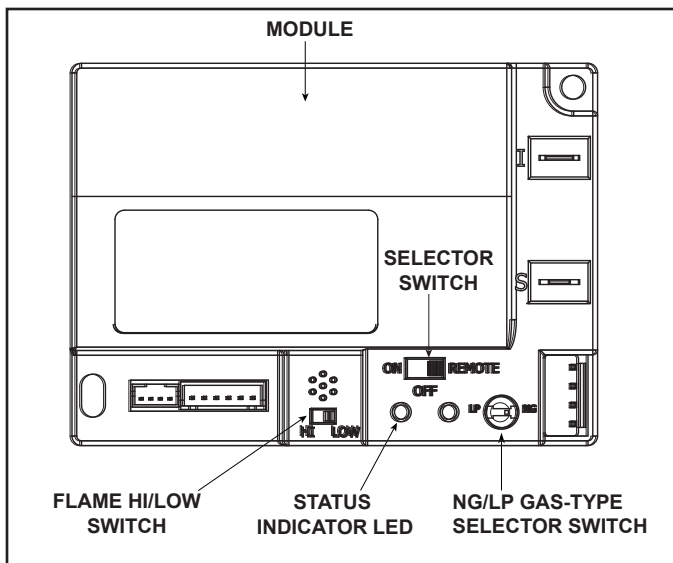

Figure 3.6 Control Module
1. The control module has an ON/OFF/REMOTE selector switch that must be set. See Figure 3.6.
2. If using a wired wall switch with the module in REMOTE mode, the flame output can be adjusted with the HI/LO selector switch on the module. See Figure 3.6. Note that the flame HI/LO selector switch will become inactive once an optional remote control (RC200/RC300) is programmed to the control module. Note that the control module will always ignite the fireplace on HI and remain so for the initial 10 seconds of operation. If the HI/LO is switched to the LO position, the flame output will automatically drop to the lowest setting after the flame has been established for 10 sec. After this 10 second period, the flame can be adjusted from HI to LO with the switch.
- Locate the module selector switch. (See Figure 3.6).
- Wait five (5) minutes to allow possible accumulated gas to clear.